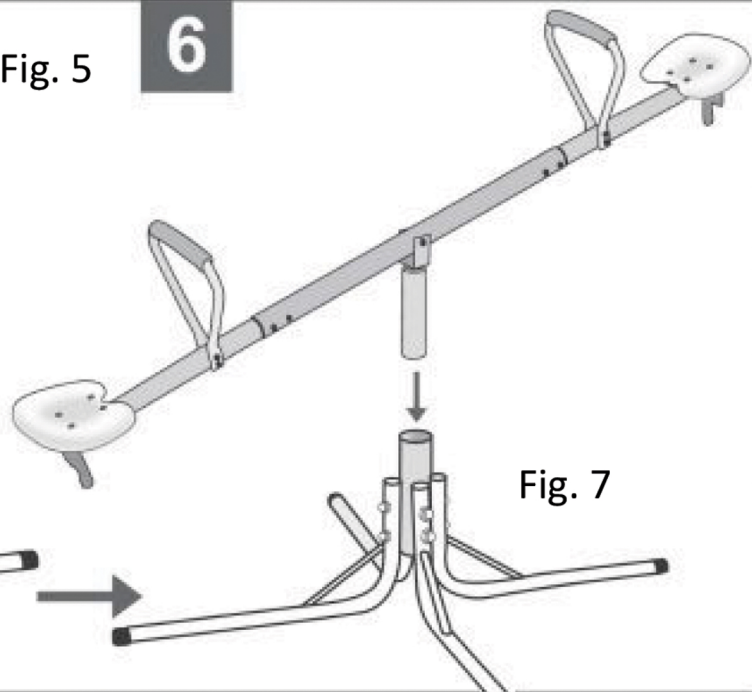

Fig. 7
Step 3. Place assembled Upper Support Tube into Lower Support Tube assembly and test for smooth rotation (Fig. 7).